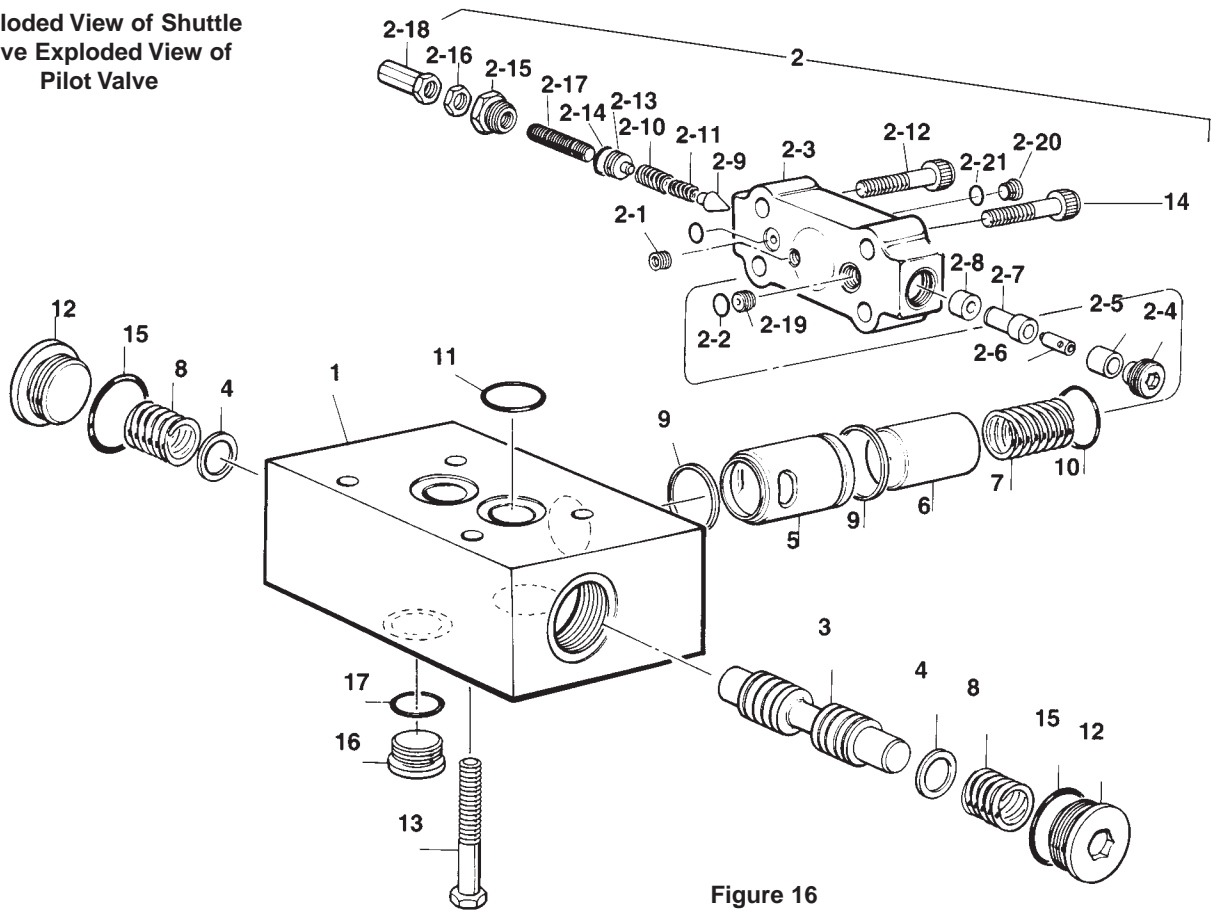

Figure 16
PARTS LIST FOR FIGURE 16 SHUTTLE VALVE
PARTS LIST FOR FIGURE 16 PILOT VALVE
See figure 16. Insert seat (2-8) into cap (2-3) and seat in bottom of bore.
See figure 16. Lube spool (3) and insert it into valve body (1). When the spool is fully engaged, move the spool back and forth a few times to check for smooth operation. Spool must move freely in body bore.
Lubricate tetraseals (11) figure 16 and place in C' bores of shuttle valve mounting surface.
Carefully attach shuttle valve to adapter (22) fig. 14, using hex hd. screws (13) figure 16. Torque to 75 lb-ft. (102 Nm).